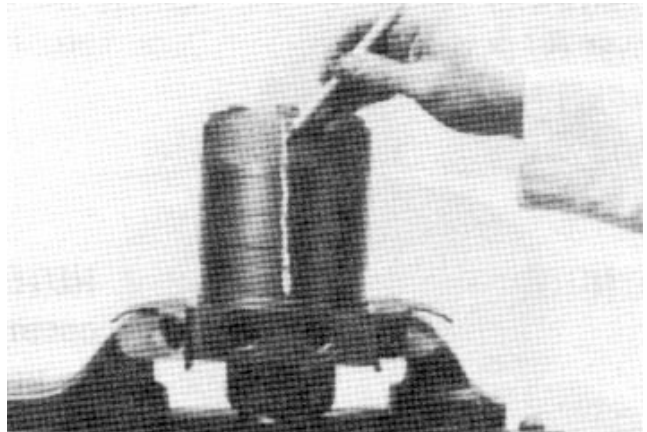

Figure 29
1. Place wheel motor in a soft jawed vise with the coupling shaft (11) pointed down and the vise jaws clamping firmly on the sides of the housing (3).
2. Scribe an alignment mark down and across the wheel motor components from the end cover (24) to the housing (3) for facilitating reassembly (Fig. 29).
3. Remove seven cap screws (14). Remove end cover assembly (24) and seal ring (5).
4. Remove commutator ring (23).